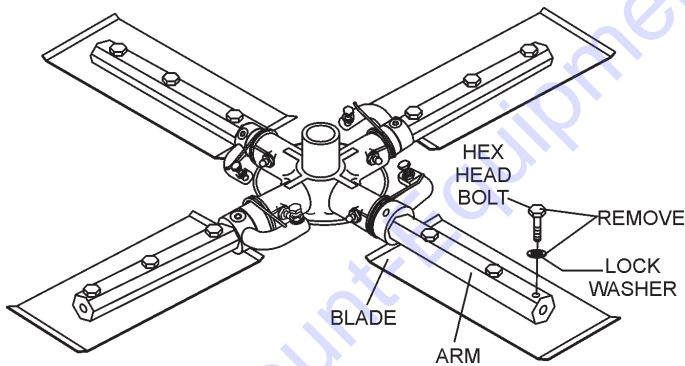

Figure 24. Trowel Blades
- Remove the trowel blades from the trowel arm by removing the three hex head bolts (Figure 24) from the trowel arm. Set blades aside.